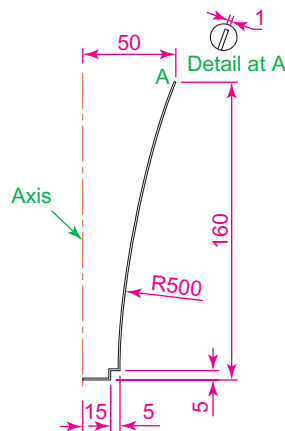

Fig. 18.21 Fourth example – 3D models
#### Fourth example (Fig. 18.21)
1. **Front.** Construct the polyline – left-hand drawing in Fig. 18.21.
4. **Isometric.** Render – right-hand illustration Fig. 18.21.